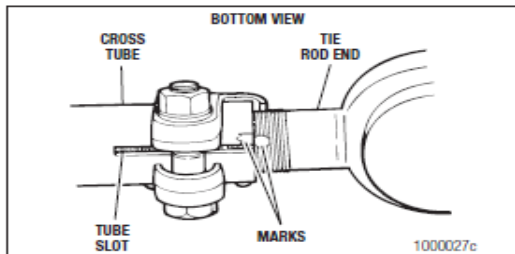

Figure 1
3. Use a paint pen to mark the position of both tie rod ends as shown. Be sure to mark it well so the tie rod end can be screwed back into the exact same position on the threads. Also count the amount of visible threads to confirm proper depth upon re-installation. Figure 1.
11. Be sure that the clamp tab is firmly seated against the end of the cross tube. Align the clamp opening with the cross tube slot as shown in Figure 1. Tighten the clamp bolt nut to 150-175 lb-ft (203-237 Nm).